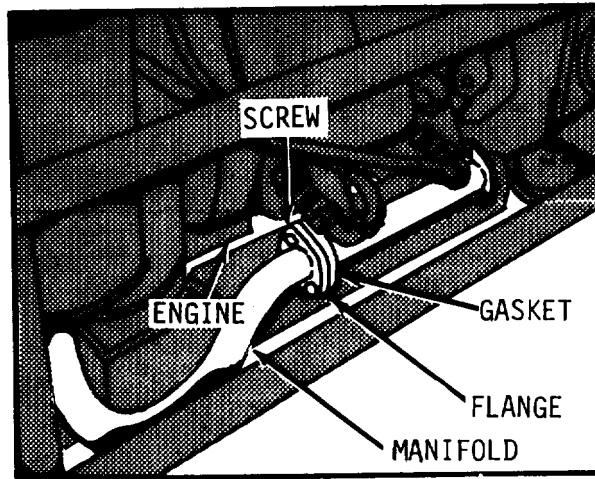

Figure 4-9. Flanged manifolds.
4-21. Flanged Manifold (fig. 4-9).
(1) Position manifold with two flanges and gasket to engine and secure with two screws.
(2) Position manifold bracket to manifold, and tighten screw (fig. 4-9).
(3) Install mufflers (par. 4-20).